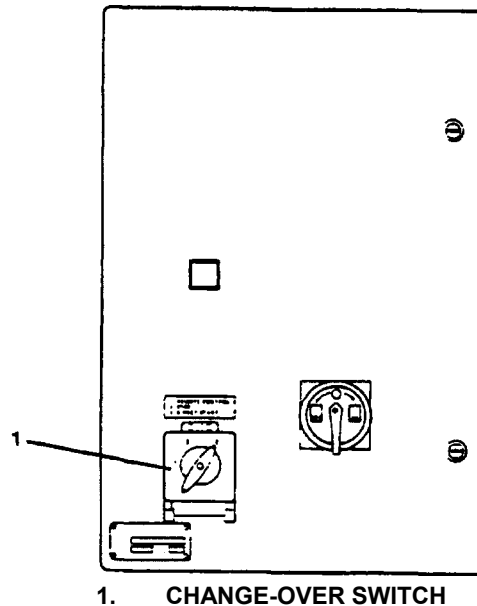

Figure 2-407. Steering Gear Motor Controller.
(1) Align electrical system. On steering gear motor controller (Figure 2-407), set switch (1) to position 3.
(2) Steer vessel.
(2) Return to normal steering. Set switch (1, Figure 2-407) to position 1. Steer vessel as described in paragraph 2-13.
(1) Align electrical system. On steering gear motor controller (Figure 2-407), set switch (1) to position 1.